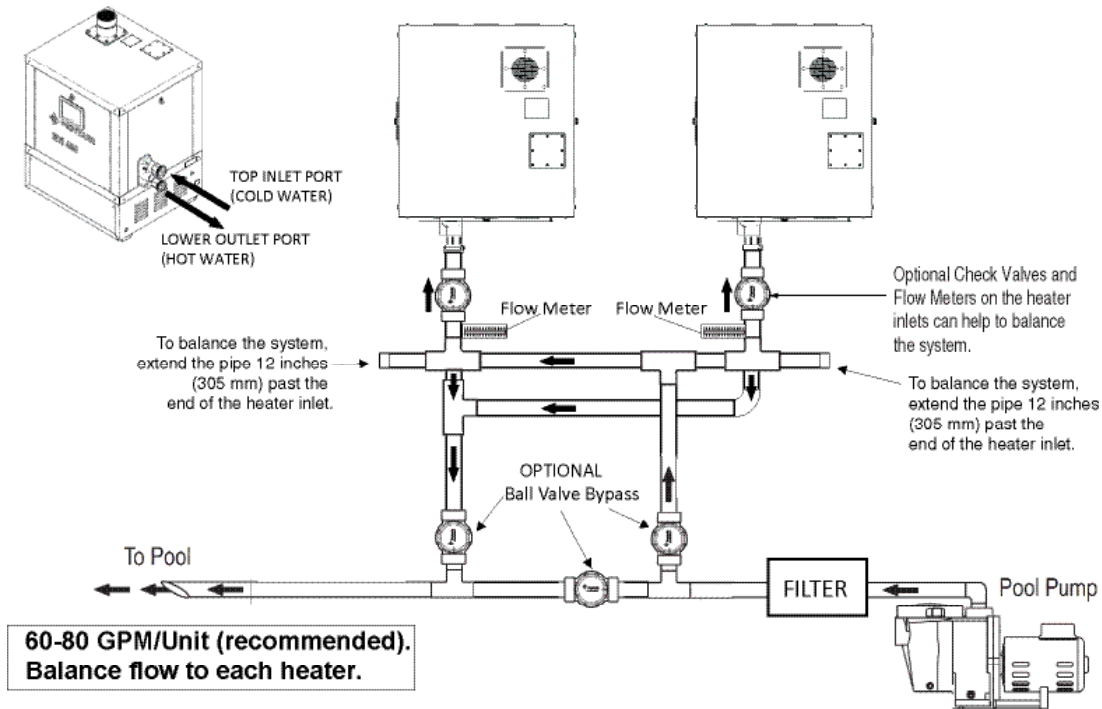
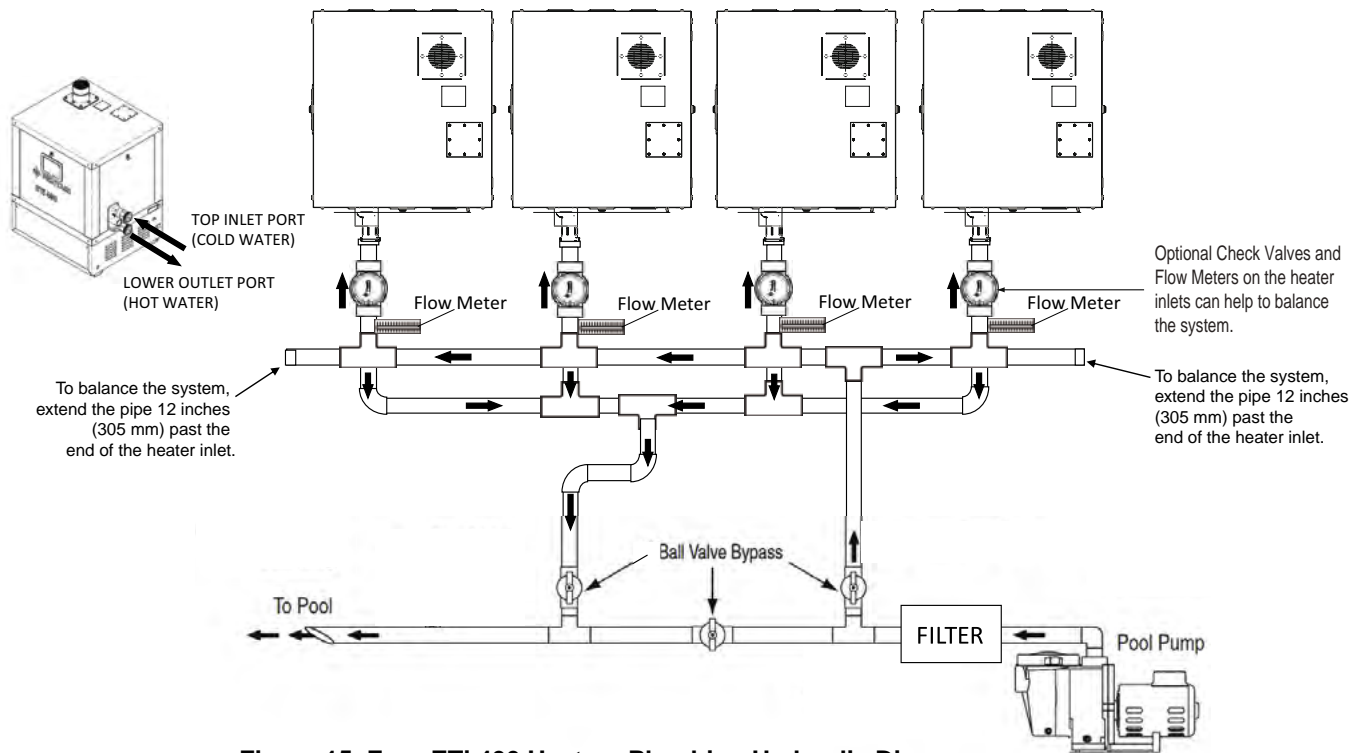

Figure 14. Two ETi 400 Heaters Plumbing Hydraulic Diagram
Figure 15. Four ETi 400 Heaters Plumbing Hydraulic Diagram
All plumbing on multiple heater installations must be done in parallel. See Figure 14 and Figure 15.
**CHECKING THE GAS PRESSURE THROUGH THE COMBINATION GAS CONTROL VALVE (See Figure 15):** Before operating the heater, the heater and its gas connections must be leak tested. **Do NOT use an open flame to test for leaks.** Test all gas connections for leaks with soapy water or another non-flammable method.